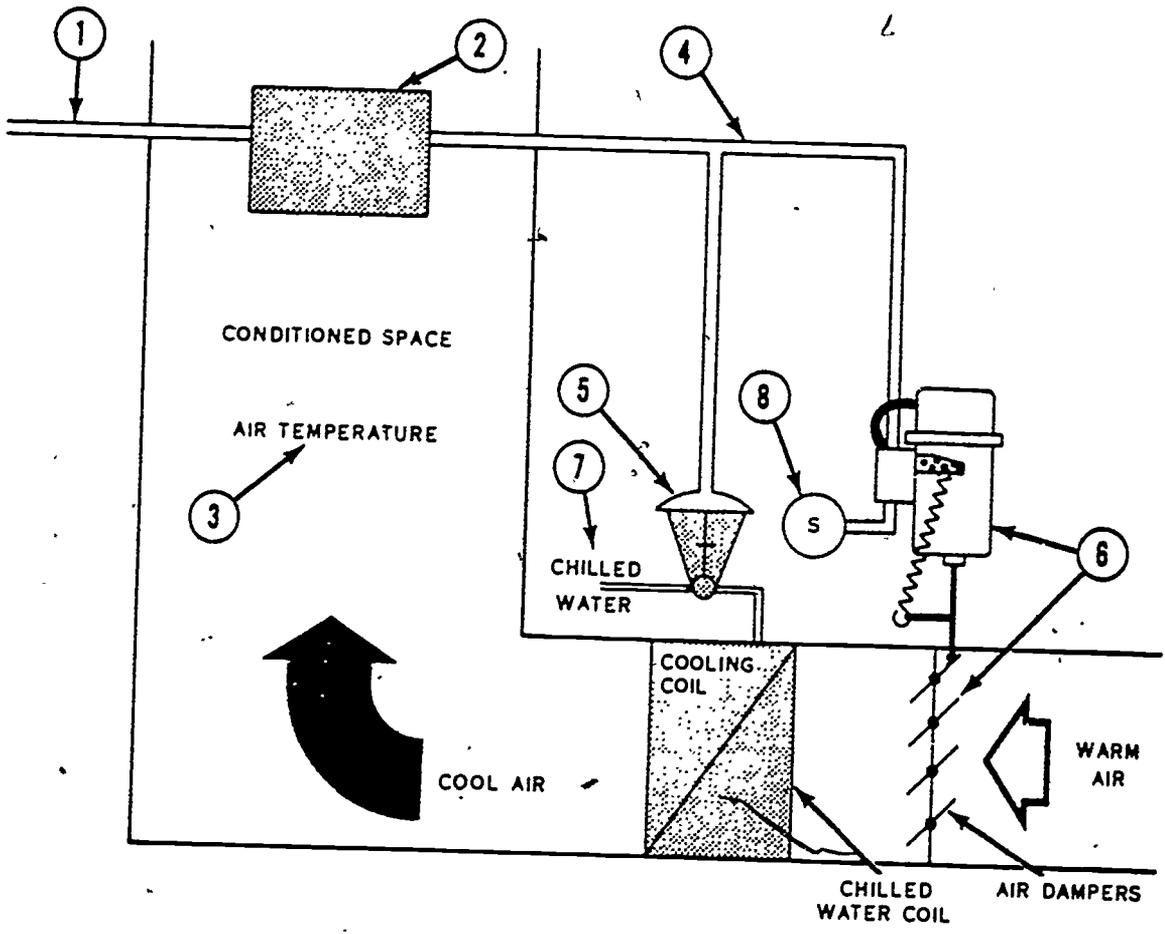

Figure 2-47. Control loop showing control terms.
Controls Terms. Refer to the numbered schematic in figure 2-47 for additional clarification of terms.
• Supply (main air) pressure: The air pressure supplied to a controller. It is usually 15 to 20 psig (see number 1, fig. 2-47).
• Controller: An instrument that senses variations in the controlled variable and produces a corresponding control action: e.g., thermostat, humidistat, or pressure controller (see number 2, fig. 2-47).
• Controlled variable: That which is being controlled—air temperature, relative humidity, pressure (see number 3, fig. 2-47).
• Control (branch line) pressure: The output air pressure from a pneumatic controller (see number 4, fig. 2-47).
• Controlled device: The final control element, such as a valve or damper, which is actuated by the controller and regulates the flow or effect of the control agent (see number 5 or 6, fig. 2-47).
• Control agent: The medium regulated by the controlled device—such as steam, hot water, chilled water, and brine—that effects changes in the controlled variables (see number 7, fig. 2-47).